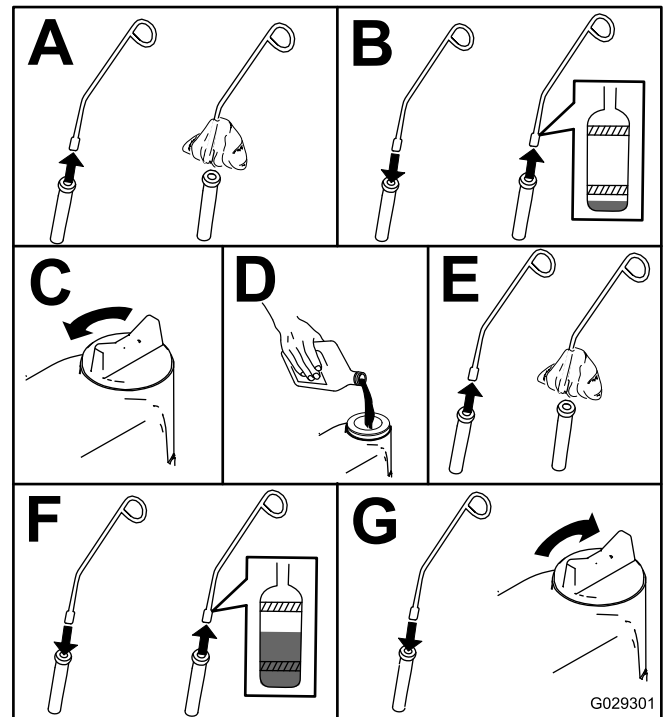

Figure 42
4. Check the engine-oil level as shown in Figure 42.